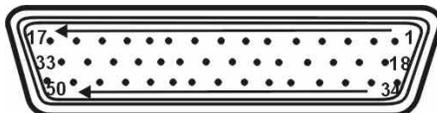

Figure 3-5: Equipment Interface Connector Pin Arrangement
Figure 3-5 shows the pin layout of the Equipment Interface connector. The arrangement is shown as seen when the viewer faces the rear panel of the analyzer. The pin numbers for each input/output function
**Span:** Floating input. 5 to 24 V input across the + and – pins puts the analyzer into the *Span* mode. Either side may be grounded at the source of the signal. 0 to 1 volt across the terminals allows *Span* mode to terminate when done. A synchronous signal must open and close external span valve appropriately. See Figure 3-5 *Remote Probe Connector*. (The –C option internal valves operate automatically.)